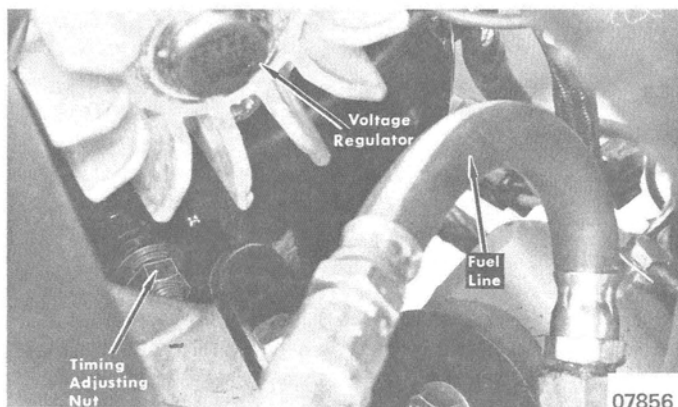

Figure 2. Timing Nut Location - Mark I
- b. Loosen timing adjusting nut (Figure 2 or 3) several turns and adjust. Move timing nut "up" to retard spark and "down" to advance spark.